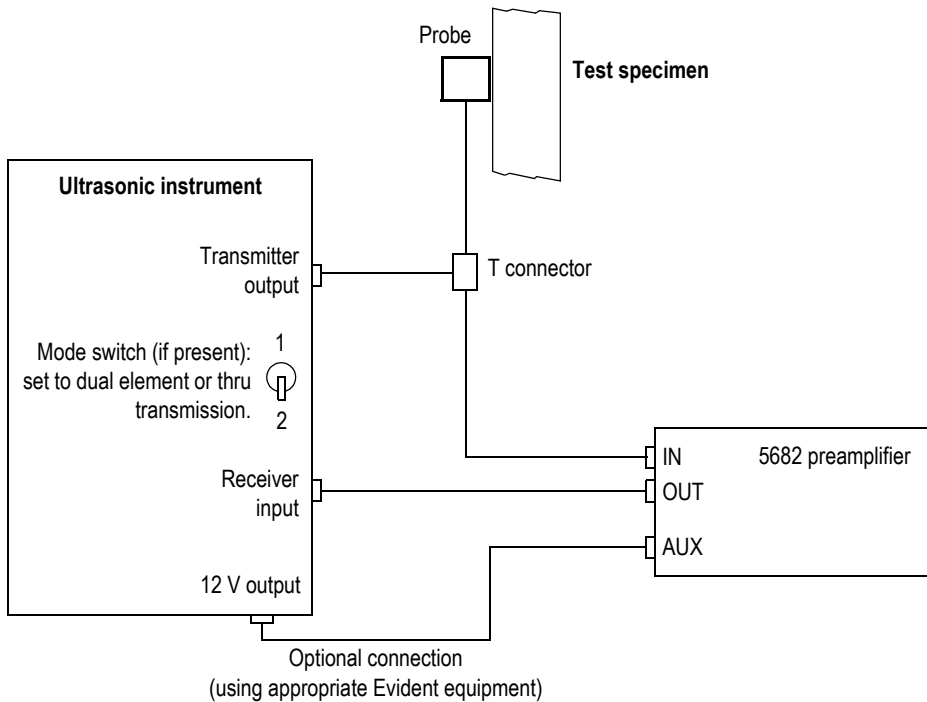

Figure 2-2 The preamplifier connections for a pulse-echo system
- ◆ Complete the connections between the preamplifier, instrument, and probe as illustrated in Figure 2-2 on page 27.